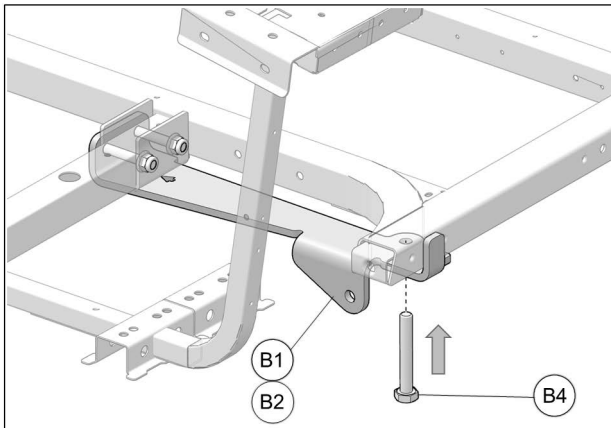

Fig. 10
8. From the bottom, insert M10x70mm bolt (**B4**) in pre-existing hole present in vehicle frame. See Fig. 10